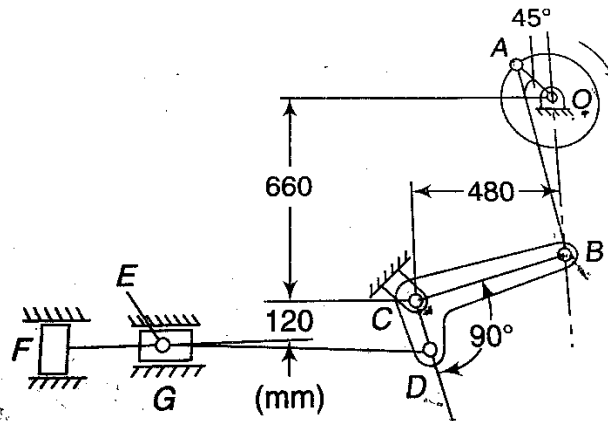

Fig. 2a
- 2 a) An engine crankshaft drives a reciprocating pump through a mechanism as shown here Fig. 2a. The crank rotates in the clockwise direction at 160 rpm. The diameter of the pump piston at F is 200 mm. Dimensions of the various links are OA=170mm, CD=170mm, AB=660mm, DE=830mm, BC=510mm. For the position of the crank, OA shown in the diagram, determine the velocity of the crosshead, E, the velocity of rubbing at the pins A, B, C and D, the diameters being 40, 30, 30 and 50 mm respectively. **12**